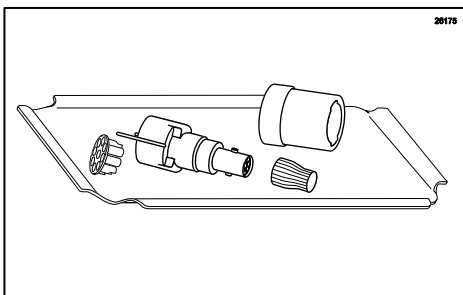

Figure 72
25. Remove the Syrup Line Manifold, Manifold cap, the Duckbill Check Valve, and Coupler Body from the sanitizer solution and place on a sanitary tray to air dry. (See Figure 72.)